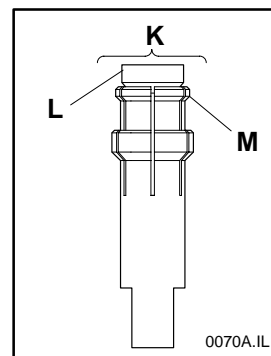
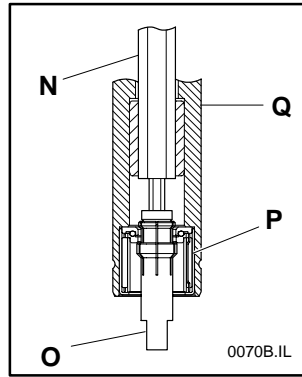

Figure 22: Bearing Removal Tool
Figure 23
1. Make sure that the shoulder (M) on the bearing removal tool is completely closed. If it is slightly open it may not fit into the bearing (P of Figure 23). Use the hex key wrench extension tool (N of Figure 23), (part number 25-08, item 23 of Tool Kit 2500M on page 29) and loosen the tapered screw (L of Figure 22) while compressing the flair (M) inward to make sure that the tool is completely closed.
2. Insert bearing removal tool (O of Figure 23) into the pulley (Q) through bearing (P).